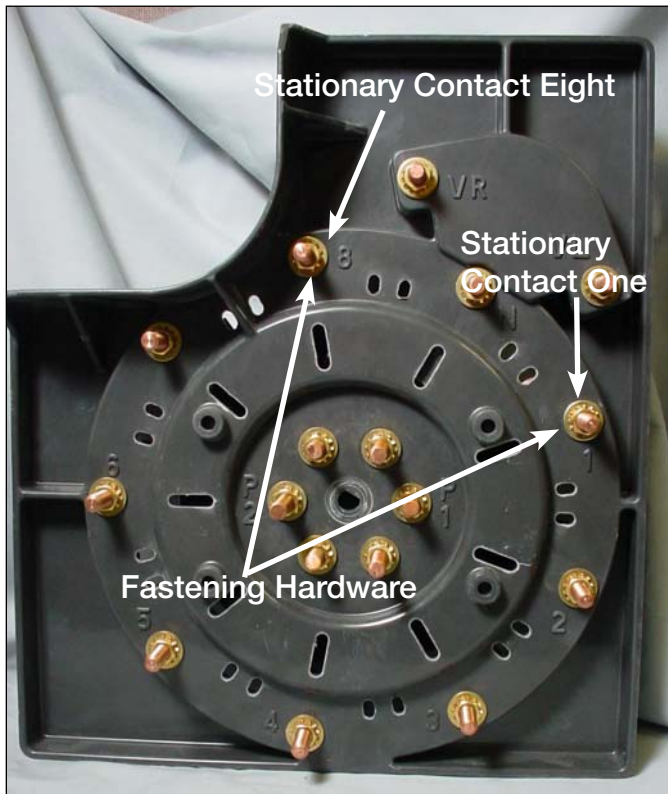

Figure 17.
- Use a 9/16 wrench or a deep well 9/16 socket and ratchet, loosen and remove the brass nut on stationary contact one, remove the external tooth lock washer and flat washer. See Figure 17.